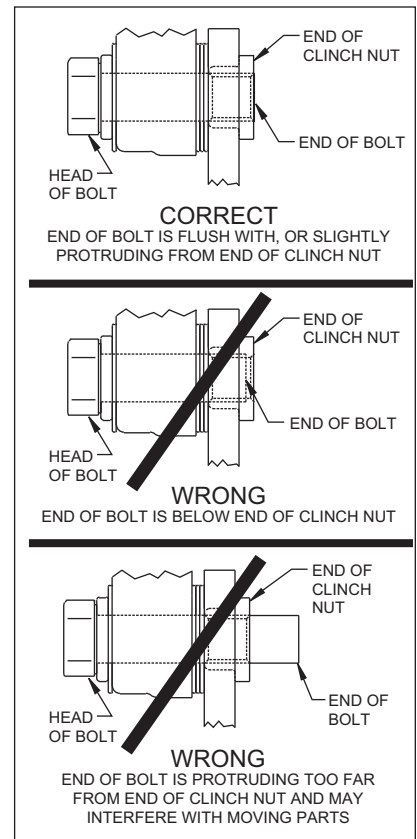

Figure 4.
- Install the dust cap (15) onto the hub (4). Friction created by the o-ring (14) on the dust cap (15) keeps it from unscrewing. The O.D. of the existing spindle washer may be larger than the I.D. of the dust cap (15) which may allow the washer to contact the dust cap (15). Use the spindle washer (13) supplied with the kit instead of the stock washer.
- Mount the caliper (16) onto the caliper bracket (1) using two bolts (18), two washers (17), two flat "shim" washers (19) and four spacers (20). Finger tighten. View the rotor (8) through the top of the caliper (16). The rotor (8) should be aligned in the center of the caliper (16). If not, loosen the two bolts (18) and adjust the caliper (16) by using 0.032 inch thick shim washers (19). The shim washers (19) should be placed between the caliper (16) and the spacers (20), positioned between the caliper (16) and the caliper mounting bracket (1). Finger tighten and recheck alignment. Add as many shim washers (19) as necessary to achieve the correct alignment. **NOTE:** *The end of the bolt must be flush with or slightly protruding from the head of the clinch nut.* See Figure 4. Place spare shims (19) between washer and caliper mounting ear to achieve the proper mounting fastener configuration. Always use the same amount of shims on both the top and bottom caliper mounting bolts (18). Loosen the two bolts (18) and apply red *Loctite*® 271 to the bolt threads (18) and torque to 40 ft-lb. Safety wire the two bolts (18).